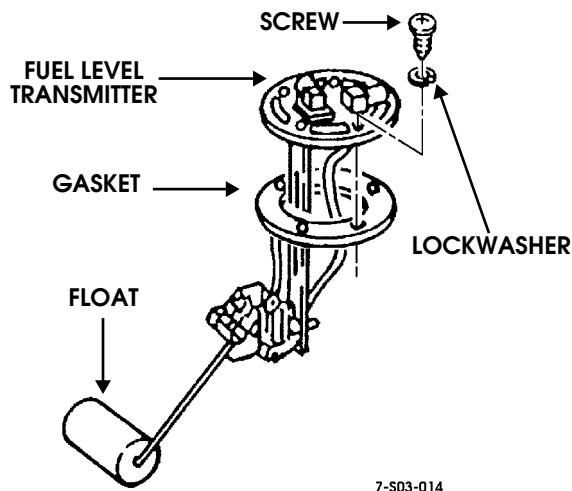

Figure 3-34: Fuel Level Transmitter in Down/Tank Empty Position
1. Hold transmitter so that float is in down/tank empty position (Figure 3-34).